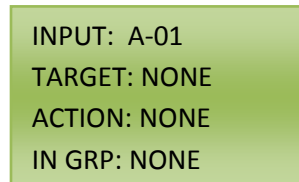

Figure 8.2
6. If the relay or dimmer is desired to be left alone and not mistakenly turned off, then press the Down Arrow so the cursor is on the colon between the words IN GRP and NONE. Press either the Left or Right Arrow to select the relay or dimmer. See figure 8.2 for visual description.